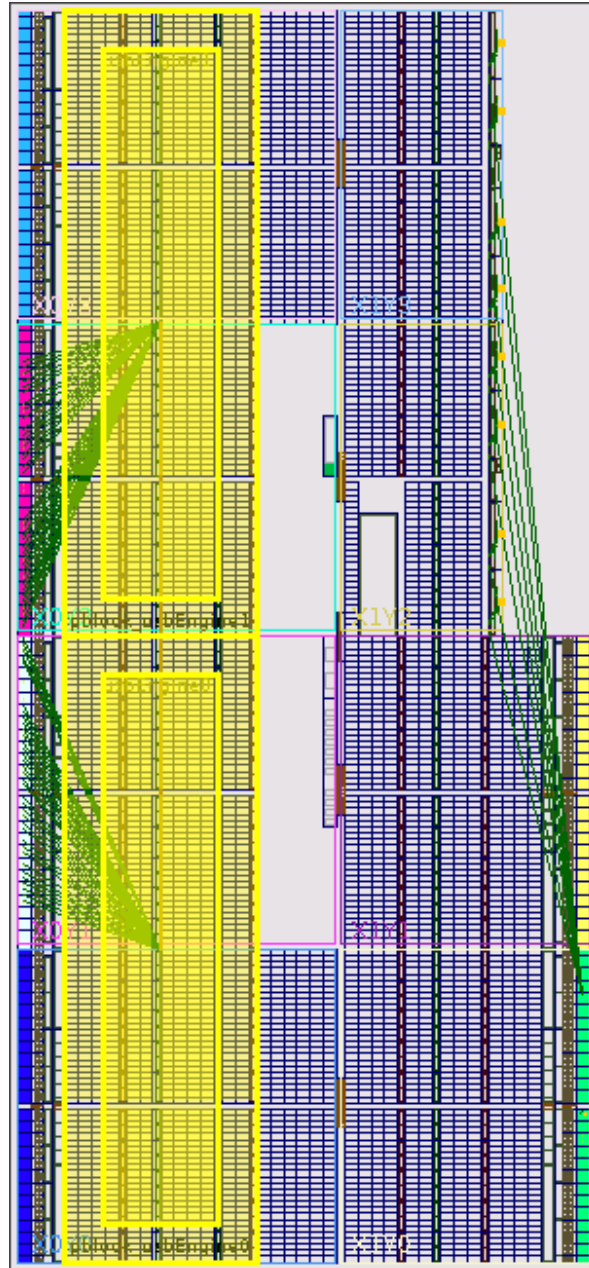

Figure 5: Completed Floorplan for Pblocks usbEngine0 and usbEngine1
10. Repeat the steps above for **usbEngine0** on the bottom-left quadrant. See Figure 5 for the final Pblock ranges.